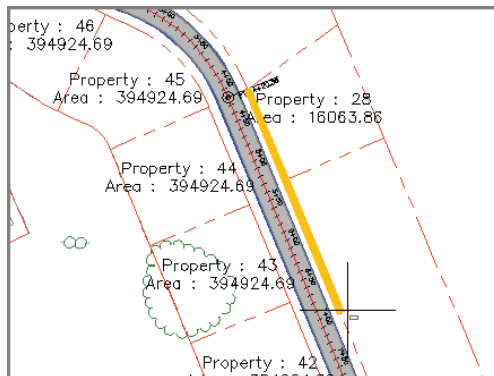

FIGURE 12.18 Defining the frontage for the parcel-editing command
8. Move your cursor southward along the right-of-way line, and click somewhere near station *7+00 (0+210)*, as shown in Figure 12.18.